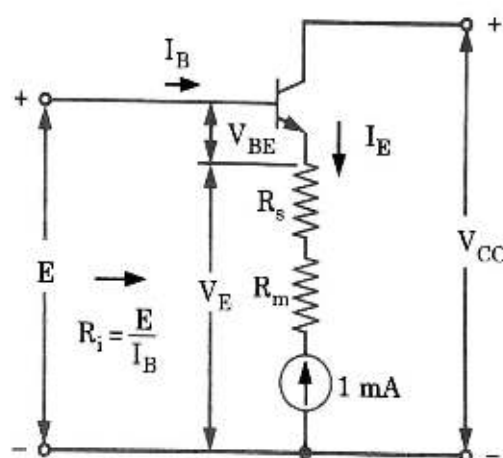

Fig. 2.1.1. Emitter-follower voltmeter.
- Fig. 2.1.1 shows the emitter-follower voltmeter circuit which consists of a PMMC instrument and a multiplier resistance R_s connected in series with the emitter of transistor.